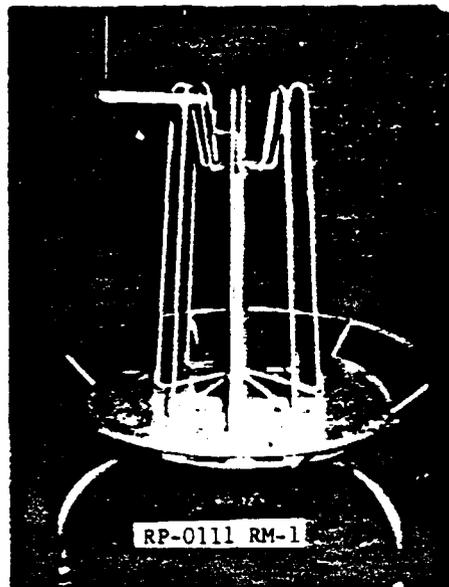

FIG. 1 COIL CABLE DISPENSER, R-3409
3.21	The R-3409 Coil Cable Dispenser shown in FIG 1 is a heavy duty collapsible turntable type dispenser for unreeling or rewinding coils of cable. The spindle (vertical) assembly is tapered for easy accessibility when placing cable on the dispenser. The combined height of coils of approximately the same length on the spindle should not exceed 20".